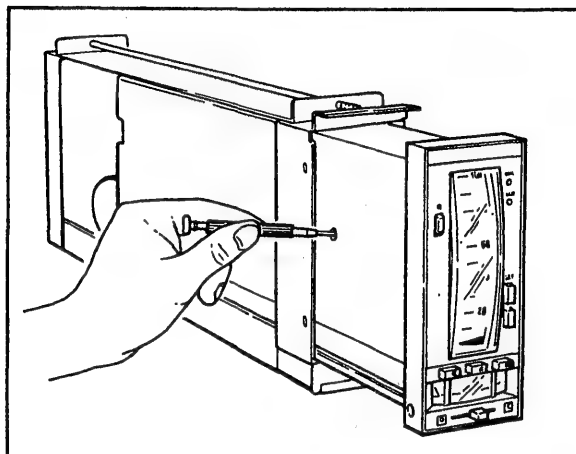

Figure 6-2-1. Zero Adjustment of Measurement Pointer.
- (1) Apply a voltage of 3.0 V DC to process variable input terminals XI (terminals 1 (+) and 2 (–)) from the DC voltage/current standard.
- (2) Check that the measurement pointer indicates $50\% \pm 0.5\%$ of the calibration mark on the scale plate.
- (3) If the reading is not in this range, rotate the zero adjustment screw to point to 50%, as shown in Figure 6-2-1.
- (4) Change the input signal to 1.0 V, 2.0 V, 4.0 V, and 5.0 V DC, and check that the readings are at 0%, 25%, 75%, and 100% calibration marks, respectively. The tolerance is $\pm 0.5\%$ of span. Check each calibration mark at the position where the line of sight and set-point value indicator are horizontal.
- (5) If the tolerance is exceeded in (4), apply 3.0 V DC again and make fine adjustments with the reading to fit in the range of $50\% \pm 0.5\%$.
- (6) Repeat (4) and (5) until the readings at all input points are held within the tolerance.